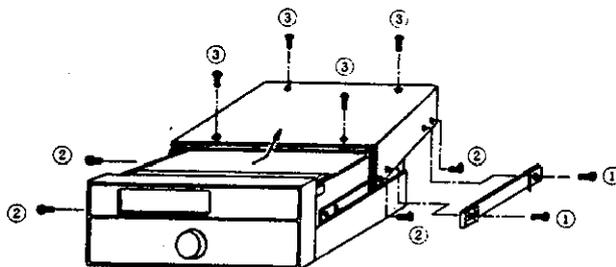

Figure 5.1 Removal of Screws
- (1) Remove ten screws in order of ① to ③ according to Fig. 5.1.